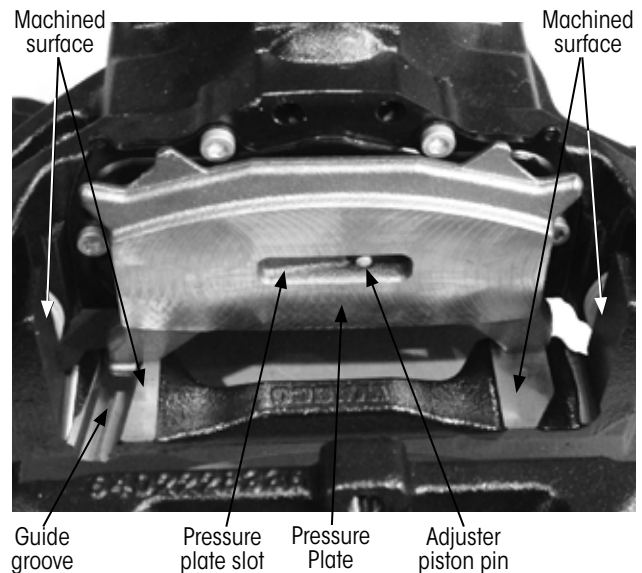

Figure 35: Installing pressure plate
NOTE: This can be accomplished by temporarily installing the pressure plate, as shown in Figure 35.
NOTICE: The pressure plate (Figure 35) must always be placed correctly in the guide groove and is to entirely cover machined surfaces shown in (Figure 35). Otherwise the pressure plate could slide out of position.
2. **Insert** the pressure plate into the brake caliper (Figure 35 on page 19).